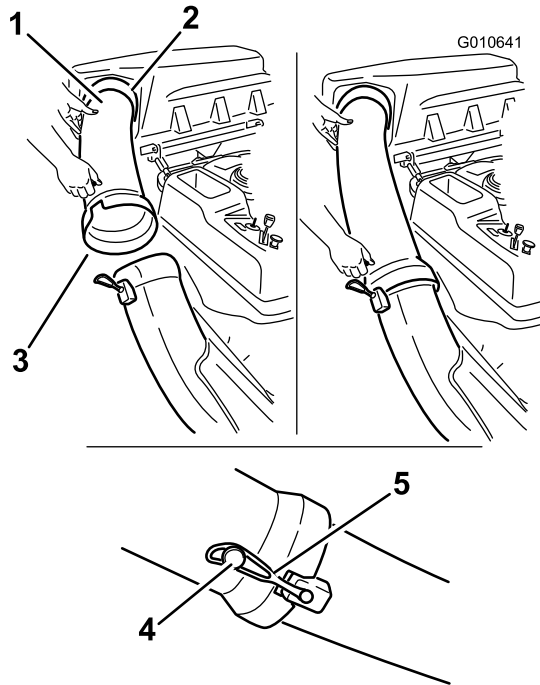

Figure 18
1. Slide the curved end of the discharge tube into the opening in the bagger top (Figure 18).
2. Slide the flared end of the discharge tube over the end of the chute. Move the rubber retaining strap on the chute snaps over the peg on the discharge tube to secure it (Figure 18).